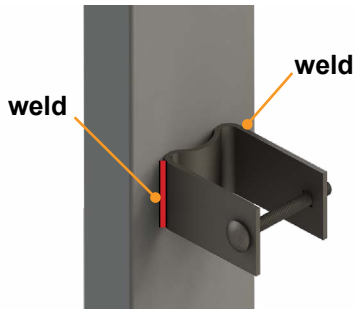

Fig.3
6. Remove the securing brackets from the landing legs then attach each bracket onto the frame at the marks made previously by welding it on both sides (Fig.3).